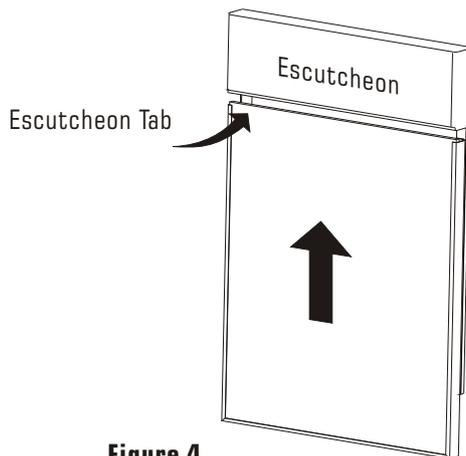

Figure 4
- Slide the panel assembly into the escutcheon tab (Figure 4).